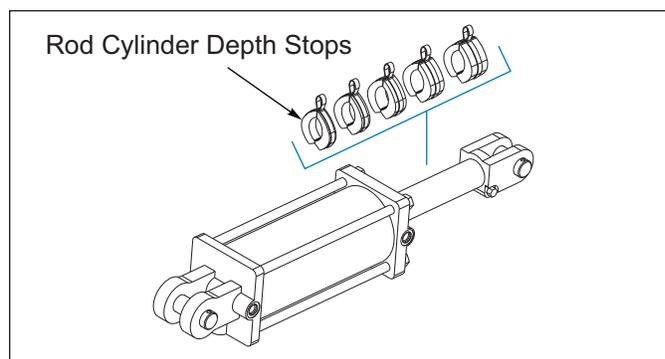

Figure 4-1: Rod Cylinder Stops - P/N 209432
4. It is recommended to use various Rod Cylinder Stops (Kit P/N 209432), to fill the space between the Cylinder Body and Rod Clevis, on the Caddy Upper Link Control Cylinder Rod once the machine is properly set. This will ensure the setting is maintained. **See Figure 4-1.**